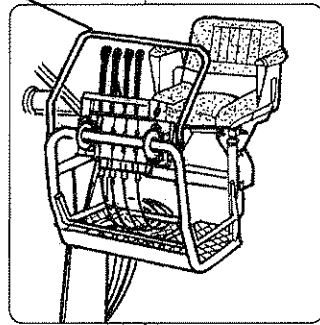

fig. 5a
- Top seat controls (fig. 5a) for crane by hand-cables; optional and only with standard distributor.